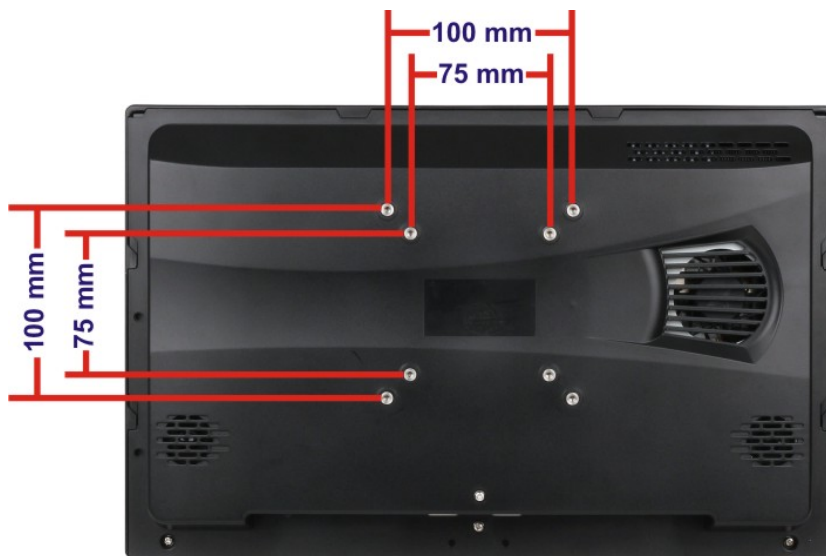

Figure 3-23: Arm Mounting Retention Screw Holes
Step 3: Align the retention screw holes on the mounting arm interface with those in the flat bezel panel PC (**Figure 3-23**).